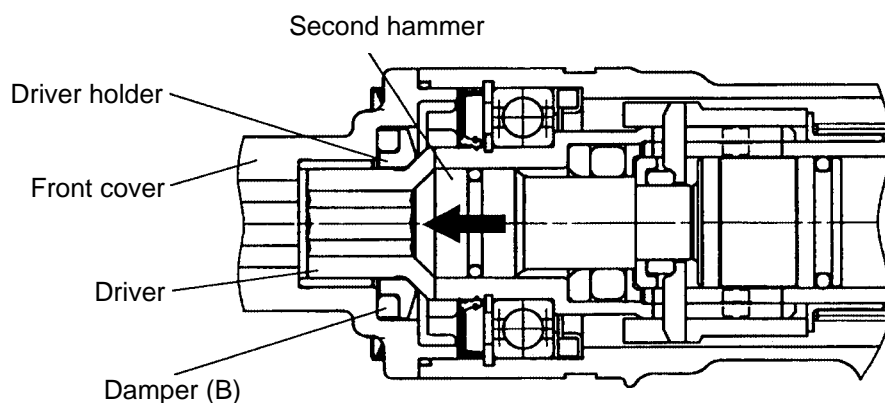

Fig. 5
At the instance of releasing the working tool from the workpiece by moving the main body up, the second hammer contacts driver as shown in Fig. 5 then the cushion (damper (B)) provided between driver holder and front cover absorbs the striking force of the second hammer. Thus the durability of the Model DH 40SR is increased greatly because the second hammer does not strike the tool retainer directly.